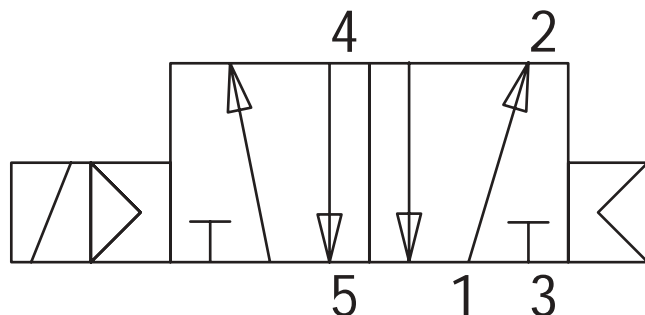
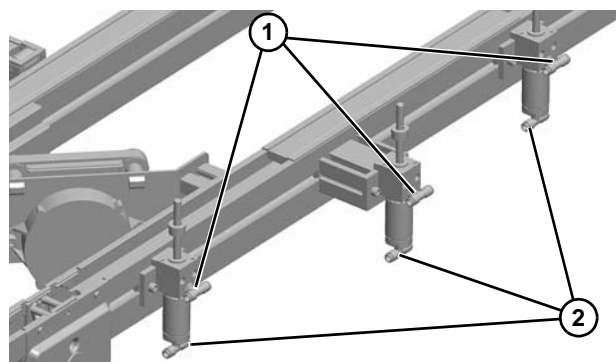
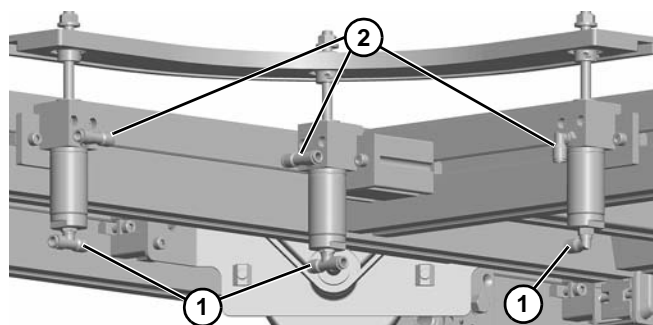

Figure 90
Figure 91
Figure 92
Dorner recommends using a 5 port, 2 way solenoid valve (**Figure 90**) to operate the pair of pin tracking guides.
1. Plum in series the top ports (**Figure 91, item 1**) of the straight section cylinders with the bottom ports (**Figure 92, item 1**) of the corner section cylinders. Connect Port 4 (**Figure 90**) of the 5 port, 2 way solenoid to this section. Dorner fittings accept 1/4" outside diameter tubing standard.
2. Plum in series the bottom ports (**Figure 91, item 2**) of the straight section cylinders with the top ports (**Figure 92, item 2**) of the corner section cylinders. Connect Port 2 (**Figure 90**) of the 5 port, 2 way solenoid to this section. Dorner fittings accept 1/4" outside diameter tubing standard.